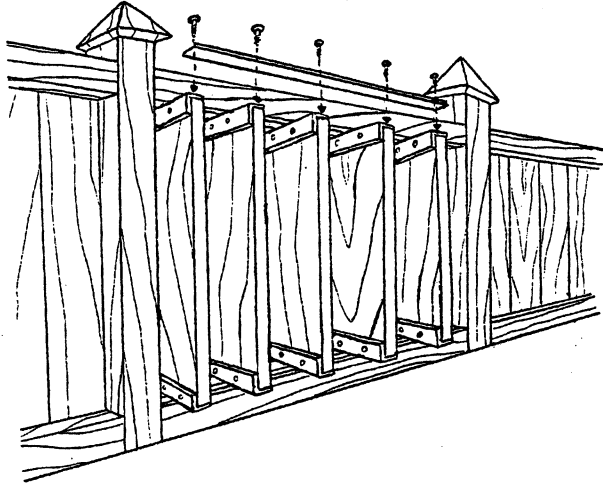

Figure 6
STEP 6 To install operating bar, turn the boards outward and parallel to one another, with the top holes at the end of the bracket facing inward, towards your enclosed area. Fasten the pre-punched, with the operating bar onto the bracket using the bar screws supplied (#6, 1 inch) ensuring the lip of the operating bar is facing upwards (**Figure 6 and 6A**). TOP installation is recommended for the operating bar if using a vertical mounting.